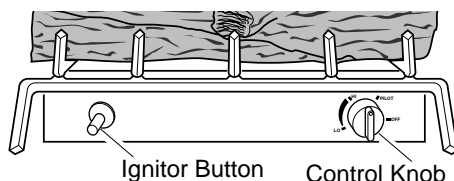

Figure 38 - Control Knob and Ignitor Button Location
4. Wait five (5) minutes to clear out any gas. Then smell for gas, including near the floor. If you smell gas, **STOP!** Follow "B" in the safety information above. If you don't smell gas, go to the next step.
5. Slightly depress and turn control knob counterclockwise  to the PILOT position. Press in control knob for five (5) seconds (see Figure 38).